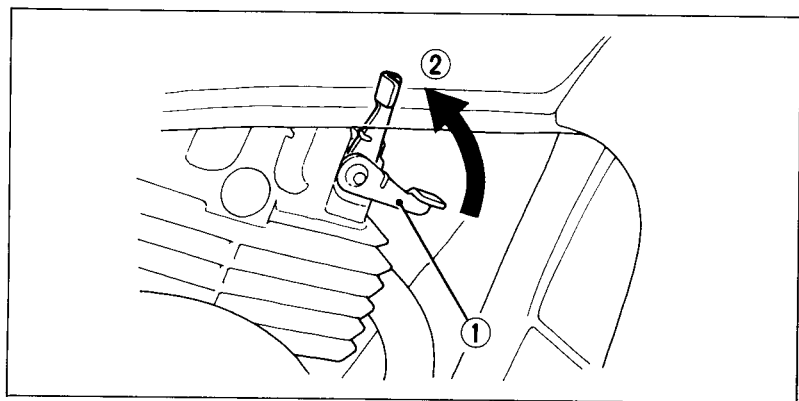

Fig. 2-12 (1) Decompression lever (2) "Decomp" position
4. Raise the decompression lever (Fig. 2-12), located on the right side of the engine, to the "Decomp" position (2).